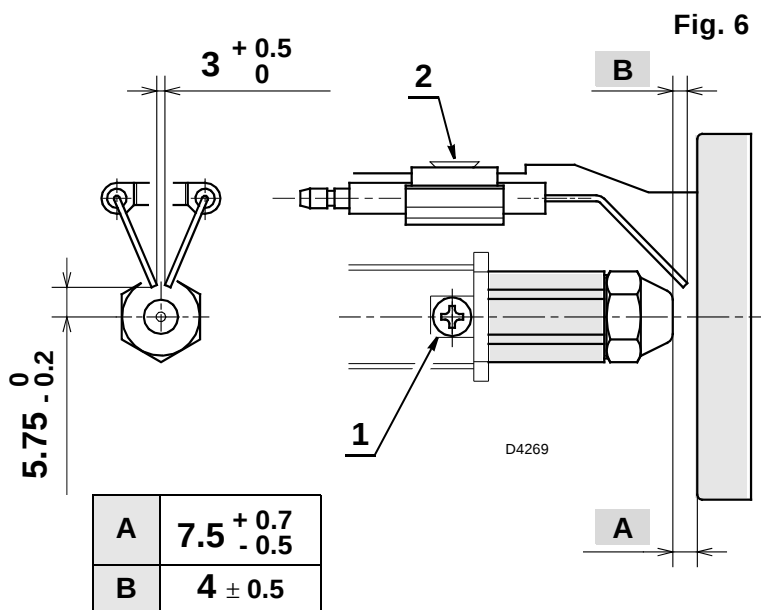

Fig. 6
3.4 ADJUSTING THE DIFFUSER DISC ASSEMBLY AND ELECTRODES, (see fig. 6)